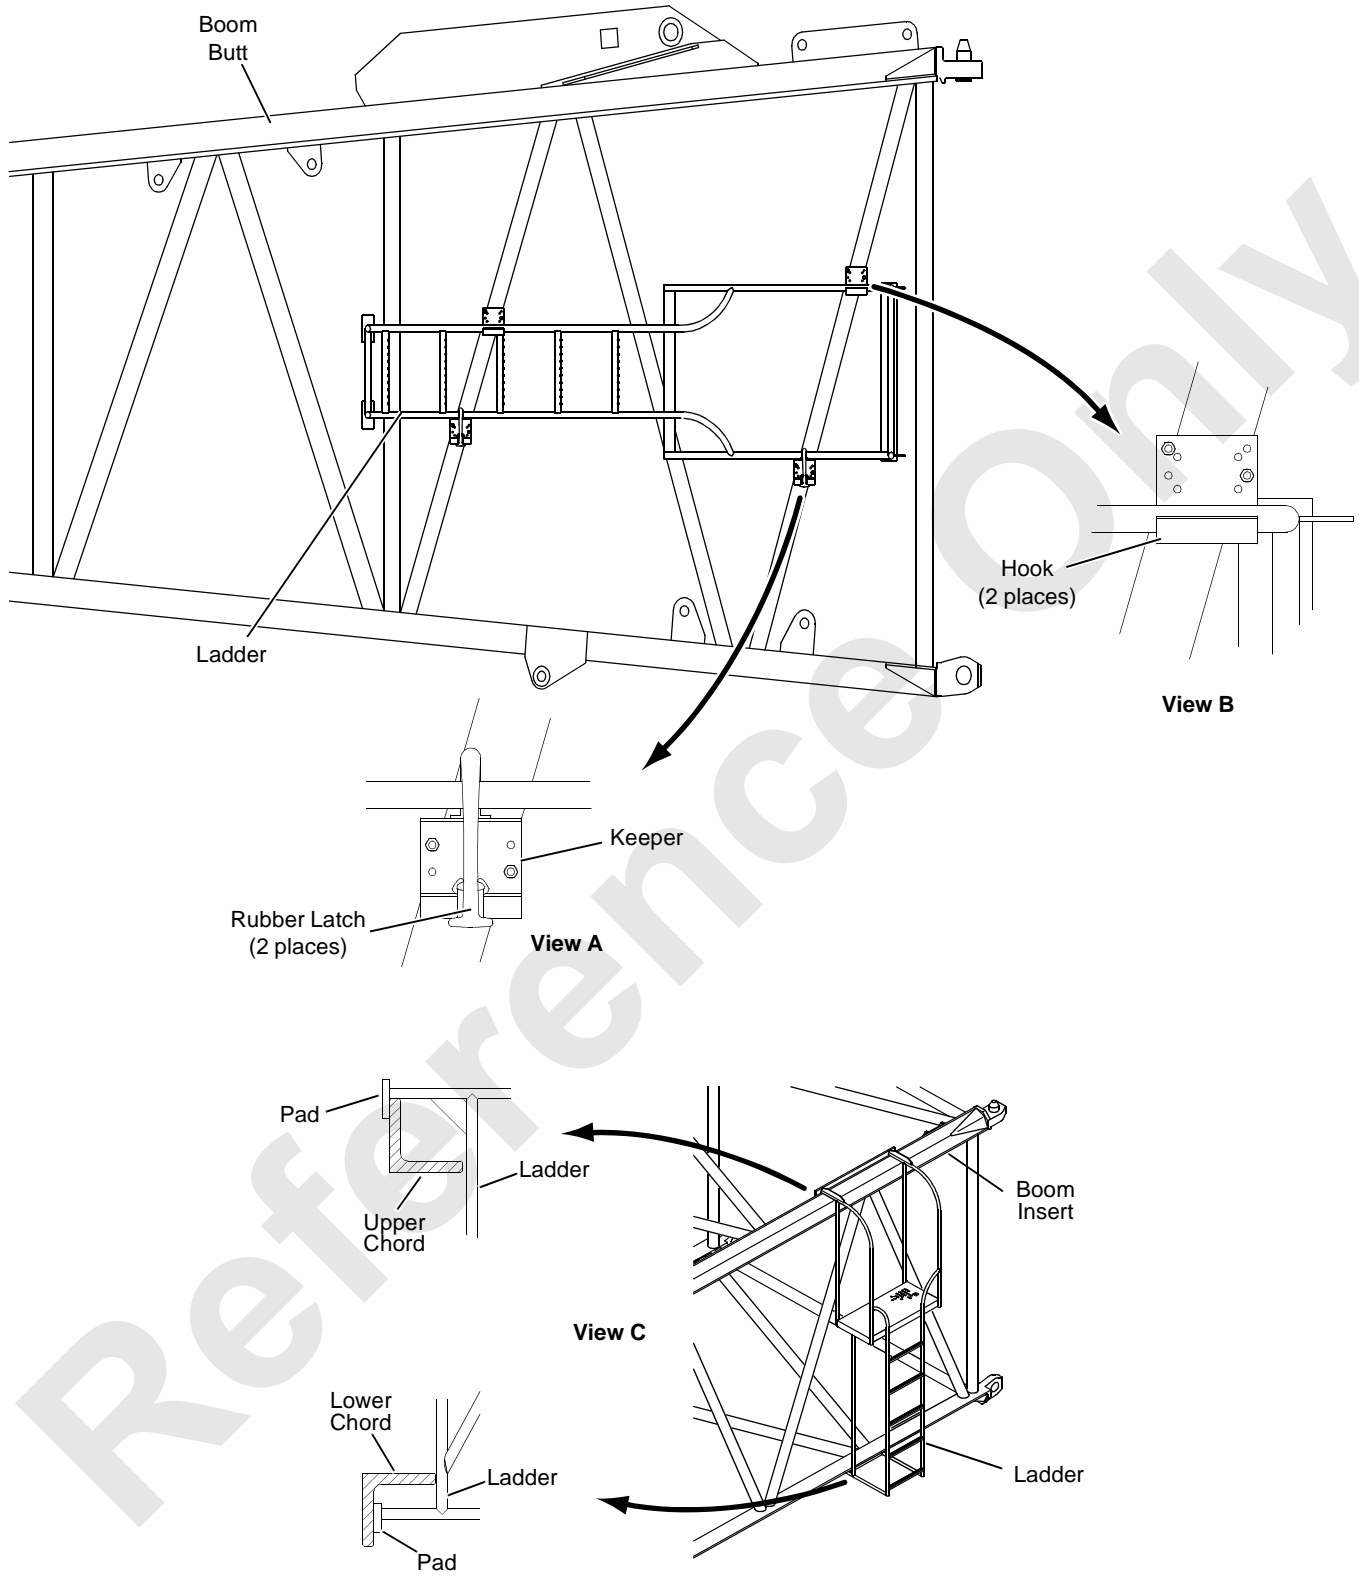

FIGURE 4-34
Two ladders are installed inside the boom butt, one on either side as shown in Figure 4-34. The ladders are designed for use in assembly/disassembly and maintenance of #44 boom sections and components. Each ladder weighs approximately 18 lb (8 kg).
2. Unhook rubber latches (Figure 4-34, View A).
Lift ladder to desired outside location on insert so that upper pad is securely hooked over backside of upper chord and lower pads rest firmly against lower chord (Figure 4-34, View C).
1. Hang ladder rails over hooks inside butt (Figure 4-34, View B).
2. Pull rubber latches tightly over lower rail and latch in keepers (Figure 4-34, View A).